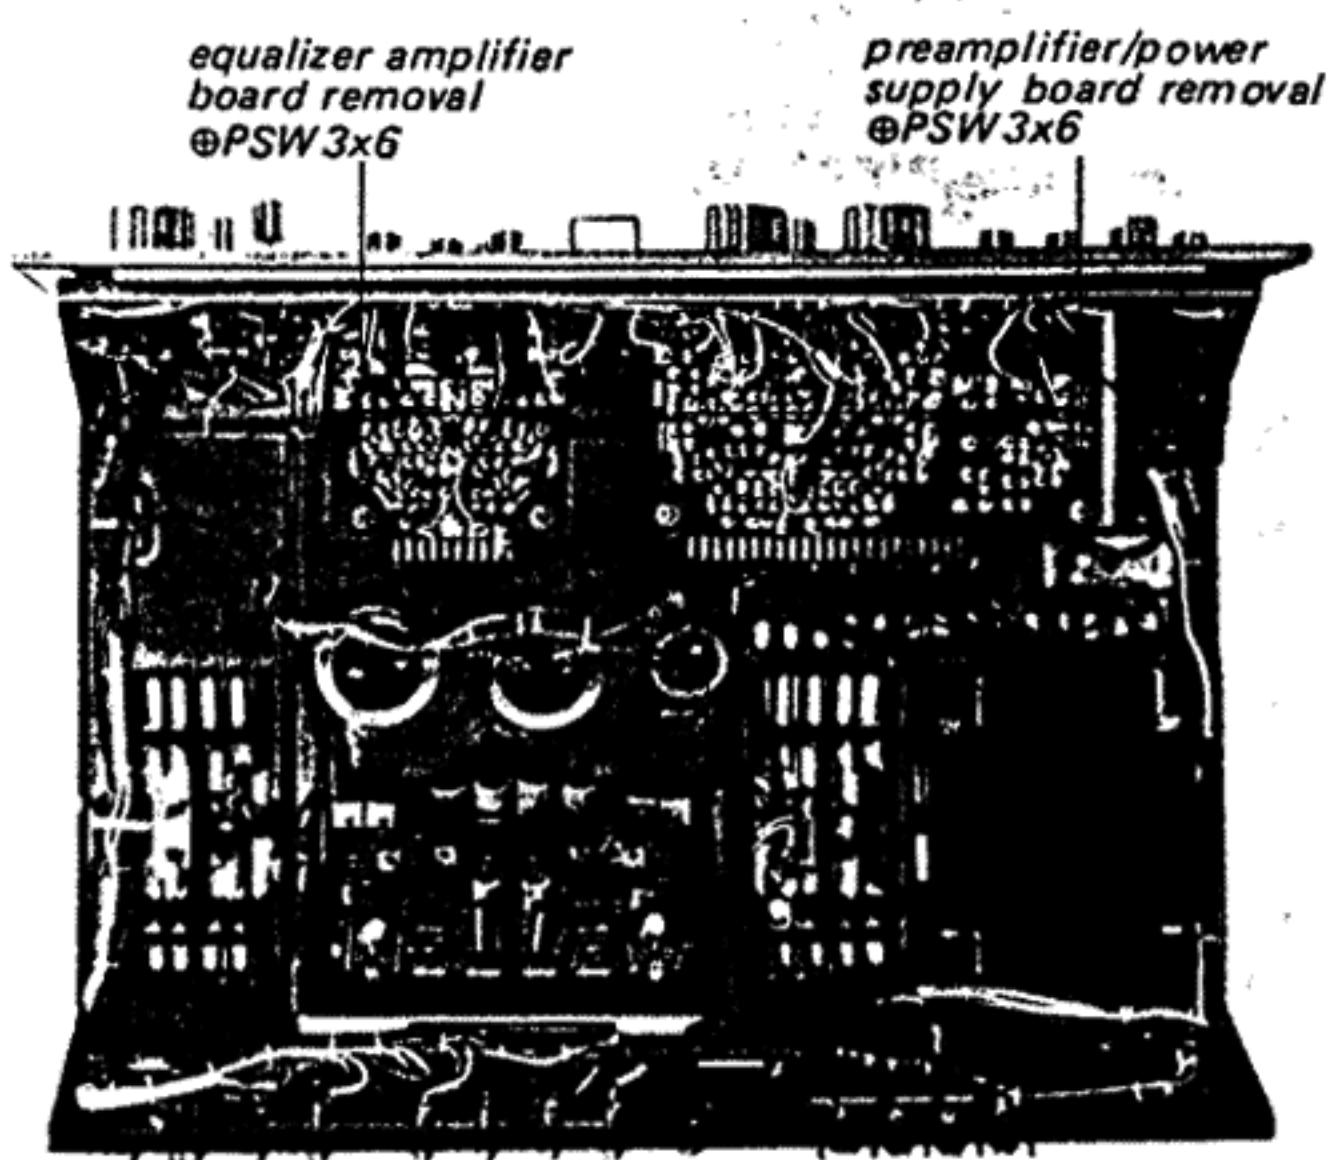

Fig. 2-6. PCB removal
2. Remove the two screws (\oplus PSW 3x6) securing the Preamplifier/Power Supply circuit board to its mounting bracket as shown in Fig. 2-6.
1. Remove the two screws (\oplus PSW 3x6) securing the Equalizer Amplifier Board to its mounting bracket as shown in Fig. 2-6.